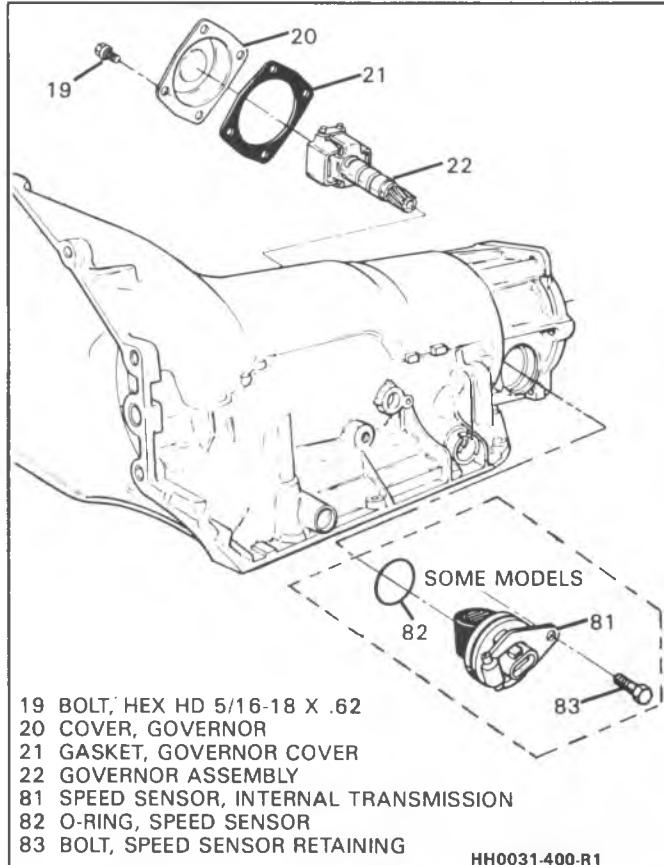

Figure 85 - Installing Governor Assembly
- o-ring (82) and o-ring groove for nicks or damage
►► Install or Connect (Figure 85)
1. Governor (22) into case (10).
2. Governor cover (20) and gasket (21) with bolts (19).
4. Speed sensor (81) with new o-ring (82) into case.